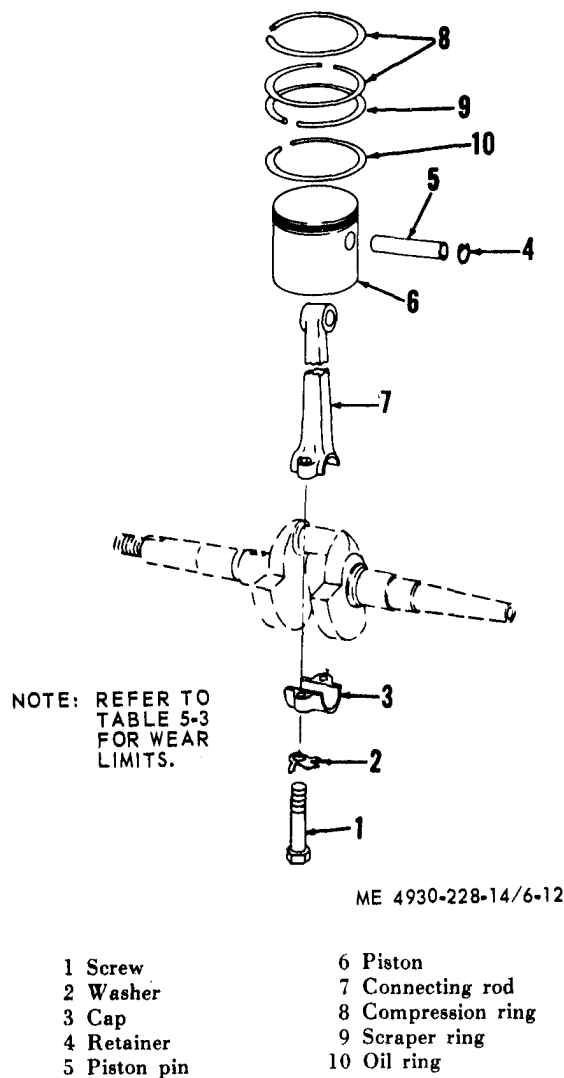

Figure 6-12. Piston and connecting rod, exploded view.
- b. Disassembly. Refer to figure 6-12 and disassemble the piston and connecting rod.
(1) Clean parts with cleaning solvent and dry thoroughly.
(2) Inspect parts for cracks, breaks, and other damage. Replace damaged or defective parts.
(3) Inspect mounting hardware for damaged or stripped threads. Replace damaged or defective part.
d. Reassembly. Refer to figure 6-12 and reassemble the piston and connecting rod.